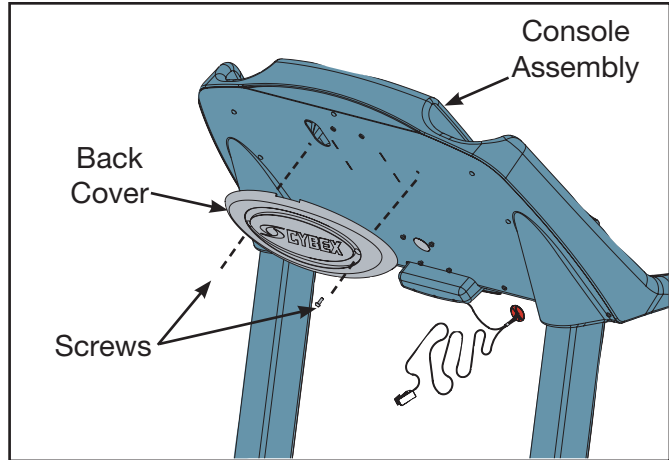

Figure 9
E. While being sure not to pinch any cables, use a Philips head screwdriver to secure the seven screws 8-16 x .50" (#14) that hold the console assembly (#2) to the console back (#4). See Figure 9.
F. Using a Philips head screwdriver secure the two screws (#13) securing the console assembly (#2) to the upright assembly (#3). See Figure 9.